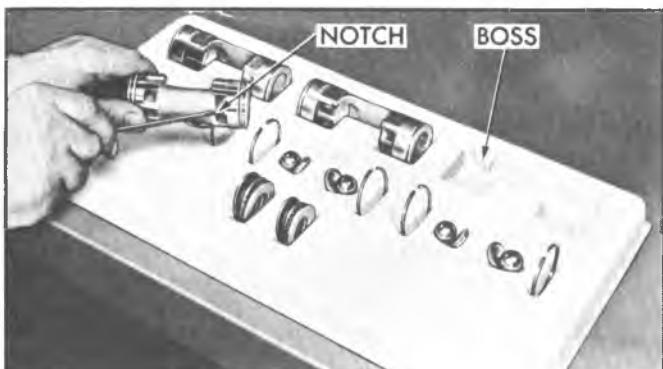

Fig. 20-Notch Identifying Front End of Piston
- NOTE: The front of the piston may be identified by a notch in the casting web (fig. 20). The piston compartments in Tray J-9402 have a boss at this notch location to indicate the front.